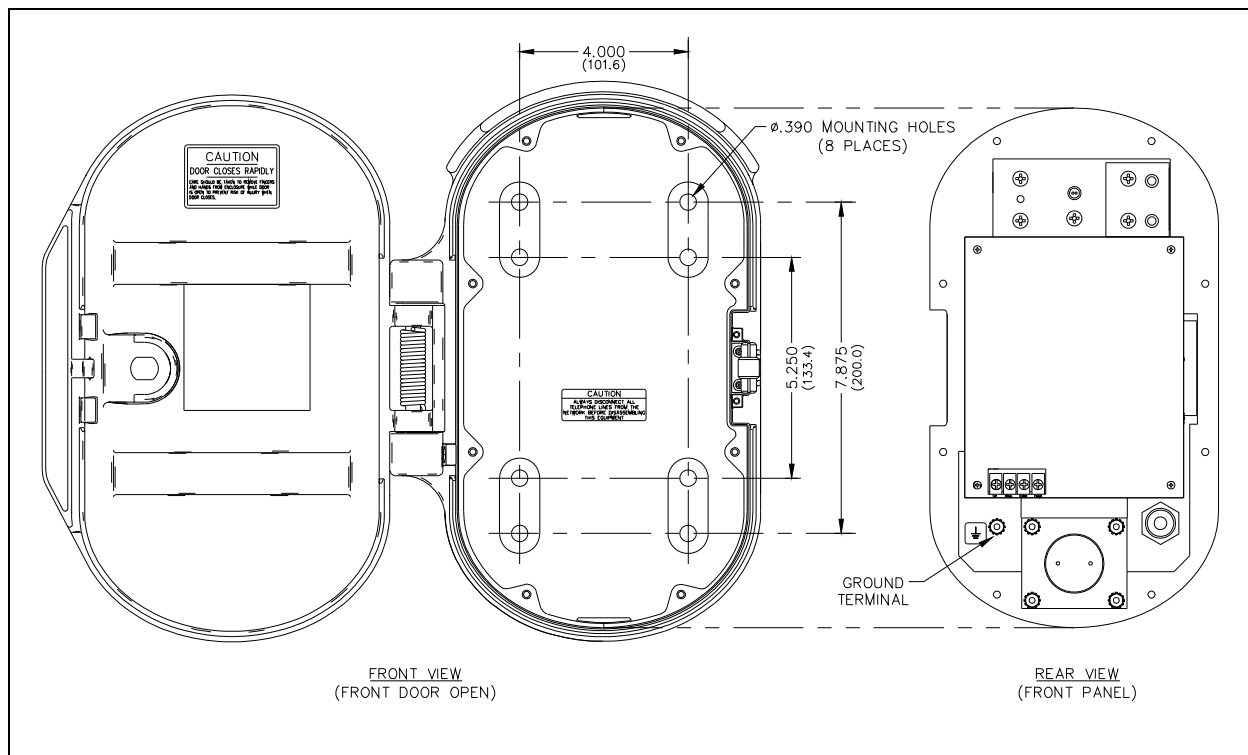

Figure 5. Model 227-005 Mounting Details
2. There are eight mounting holes in the back of the enclosure in two 4-hole patterns. Determine which hole pattern will be used for mounting. See Figure 5.